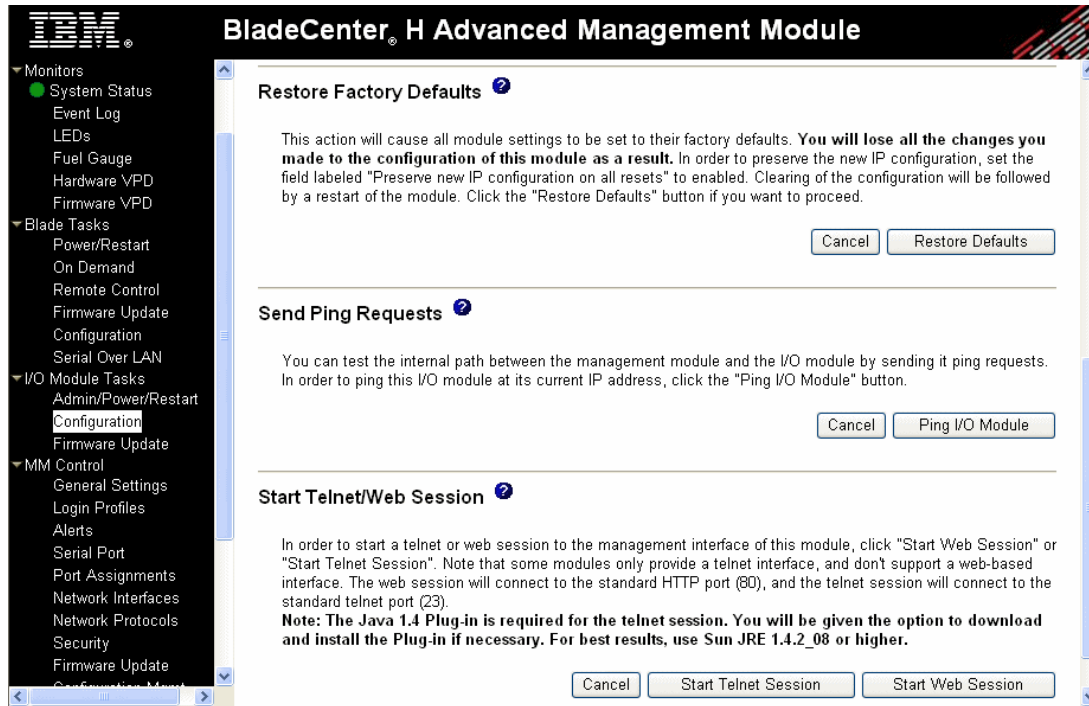

Figure 4-10 Launching Web or Telnet Session from the Management Module
- The remaining steps for configuring the switch module are performed either through the command line interface (CLI) via telnet or Web tools (via Browser). Both methods are accessible from the Management Module window (see Figure 4-10) or you may access outside the Management Module by using the switch module's IP address.